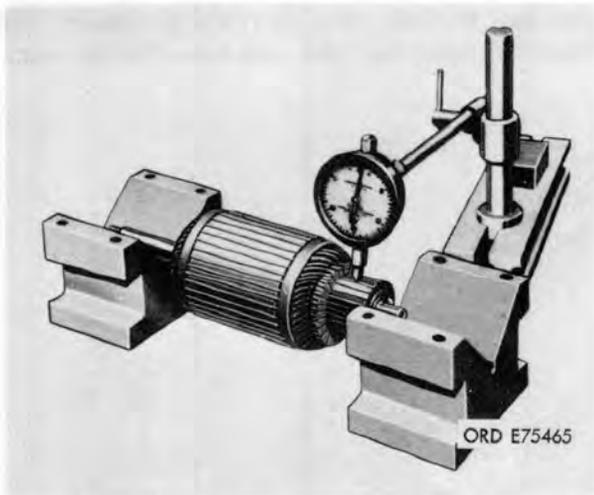

Figure 4-11. Checking commutator run-out.
- (1) *Visual.* Inspect commutator for roughness, grease and dirt, high mica, or evidence of burning. Inspect to see that windings are not loose from core and not unsoldered from commutator risers. Inspect bearing surfaces of armature for burrs, pits, or excessive wear. Inspect armature shaft for straightness. Replace armature if shaft is bent. Inspect sealed ball bearings in accordance with TM 9-214.
- (2) *Commutator run-out* (fig. 4-11). Place armature in V blocks. Measure run-out using a dial indicator as shown in figure 4-11. Total indicated run-out must not exceed 0.001 TIR and variations between any two adjacent bars should not exceed 0.0003 inch. If run-out exceeds those limits, recondition commutator (*c* below).
- (2) If windings are unsoldered from commutator risers and the resulting opening has not caused the commutator to burn so badly that it cannot be repaired by turning, the winding may be soldered. Use a rosin core flux when soldering windings. Measure the accuracy of the refinished commutator using a dial indicator gage as shown in figure 4-11. Runout shall not exceed 0.001 inch, and